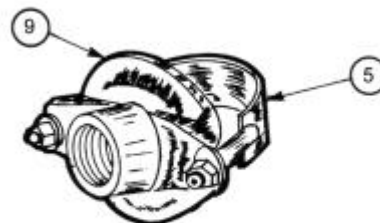

Figure 5
5. Position the saddle fitting and "U" clamp (Figure 5) on the outside of the casing over the drilled hole. Tighten the "U" clamp evenly until the outer edge of the saddle fitting snugs the casing.